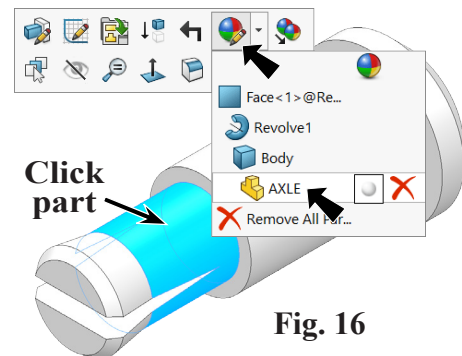

Fig. 16
**Callout**  on the context toolbar and click **AXLE** , **Fig. 16**.